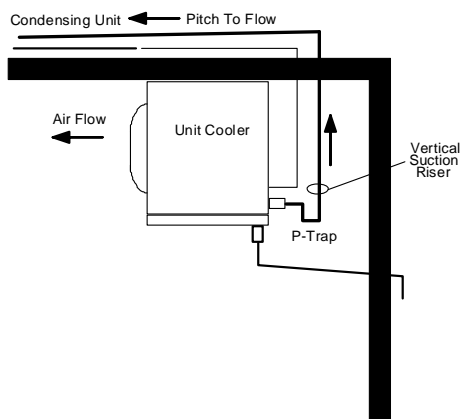

Figure 1
- Pitch all horizontal suction lines in the direction of refrigerant flow (minimum - 1/4" / foot of run) to ensure oil return. Install a P-trap at the bottom of ALL vertical suction risers (**Figure 1**). This not only helps with oil return but protects the expansion valve sensing bulb from the affects of liquid drain back at the outlet of the evaporator.